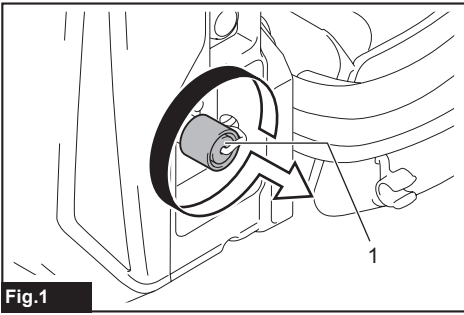

Fig.1
► Fig.1: 1. Cap
▶ **Fig.1:** 1. Tampa